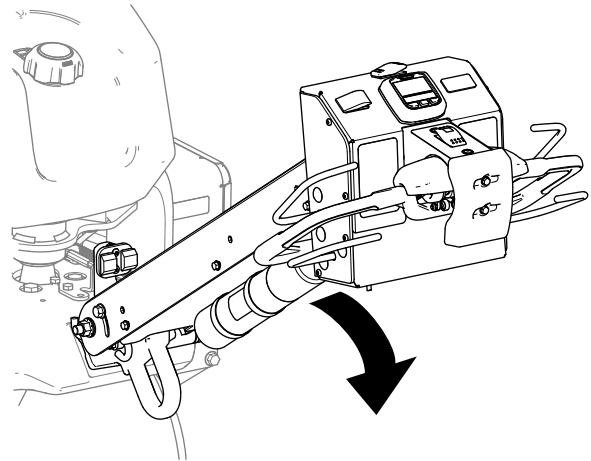

Figure 30
2. Lower the handlebar (Figure 30).